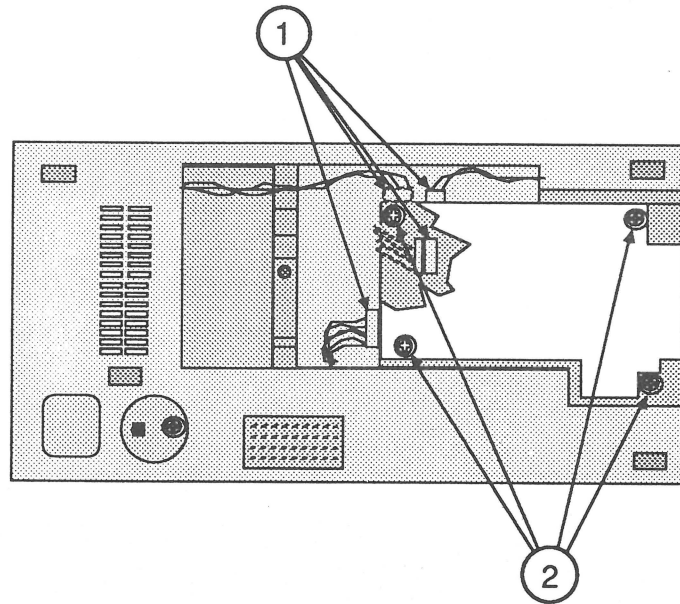

FIGURE 37
1. Attach the four cables to connectors CN2, CN3, CN7, and CN8 (Figure 37, #1).
3. Screw in the four screws (Figure 37, #2).